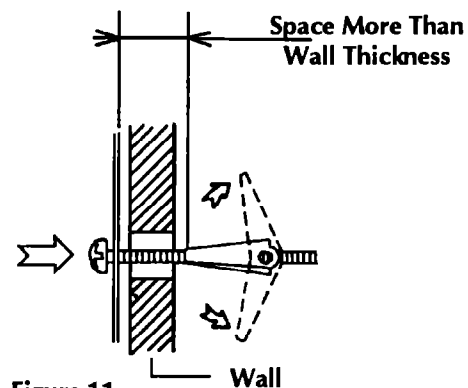

Figure 11
3. Position the mounting plates with the toggle bolts attached at the wall location and insert toggle nuts and bolts through the holes in the wall with the toggle nuts closed. (**Fig. 11**). Use wood screws to attach mounting plate to studs.